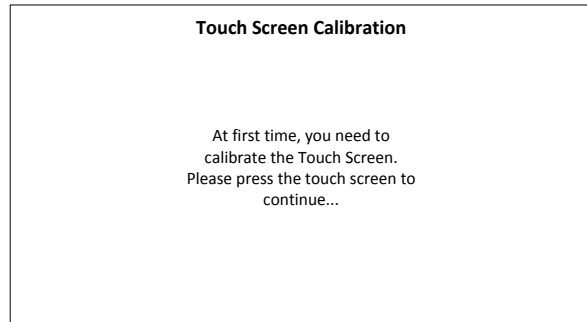

Figure B.1. Touch Screen Calibration Window Shown on the SL-881 LCD Touch Screen
1. Press the UPG button (item 11 in Figure 1.4) first, and then press the Reset button (item 13 in Figure 1.4) to reset the SL-881. After the SL-881 completes resetting, the Touch Screen Calibration window appears. See Figure B.1.